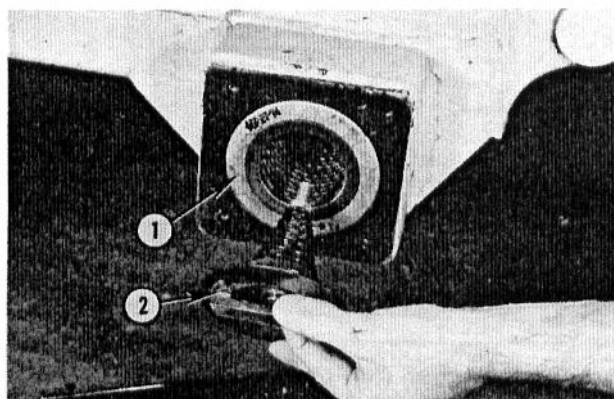

Fig. 59 — Installing Filter Element and Bypass Valve — MF 300A Loader Shown
4. Insert new element (with seals) into side frame (over retaining bracket) ... then thread bypass assembly into bracket to secure element, see Fig. 59.